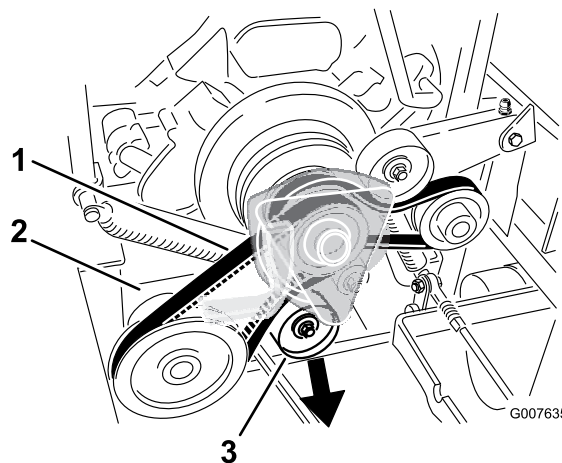

Figure 51
5. Push down on the spring loaded idler pulley for the PTO drive belt and remove the belt from the clutch pulley (Figure 51).
17. Push down on the spring loaded idler for the PTO drive belt and install it onto the clutch pulley (Figure 51).